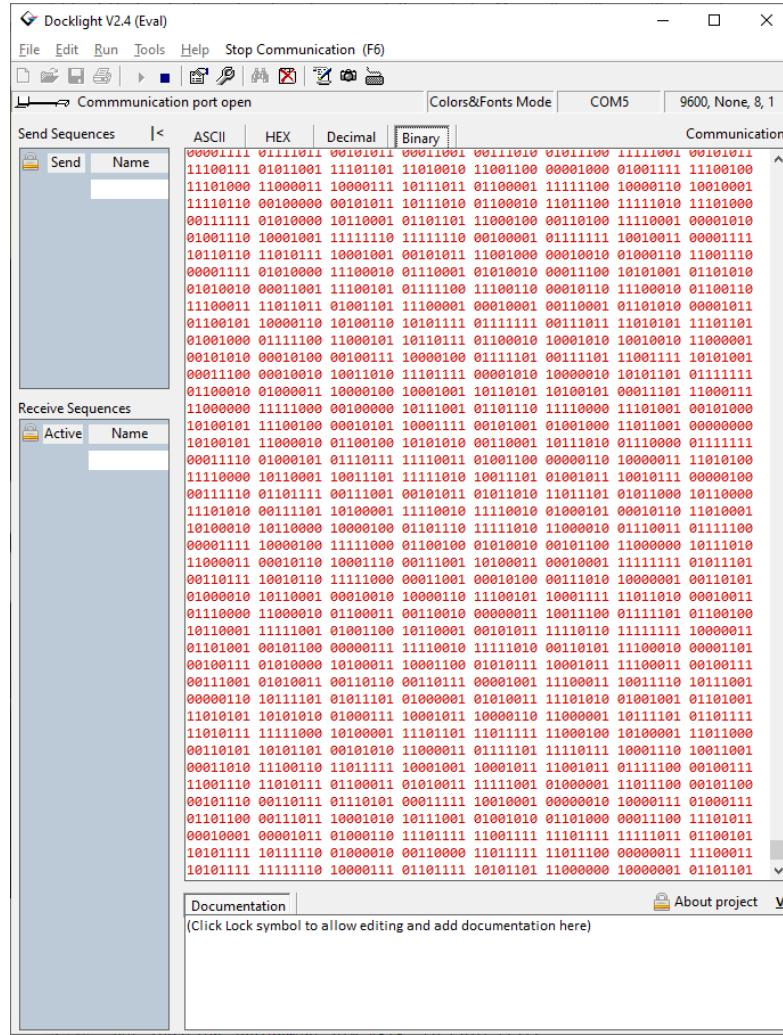

Figure 15: Docklight data stream
- Select Run → Start Communication and you will see the received real-time data byte stream as shown in Figure 15.